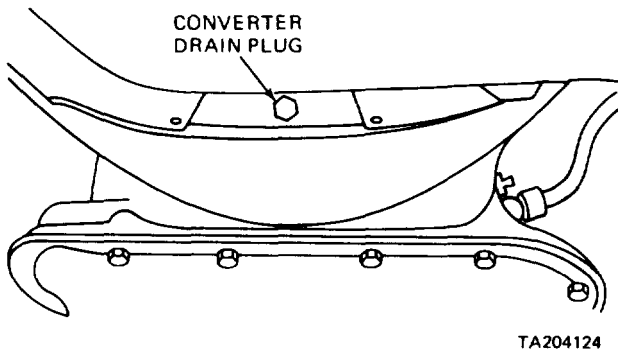

Figure 4-22. Converter Drain Plug.
c. Remove the access plate in front of the converter, and remove the drain plug (figure 4-22). Allow the fluid to drain. Install and tighten the converter drain plug and install the access plate.